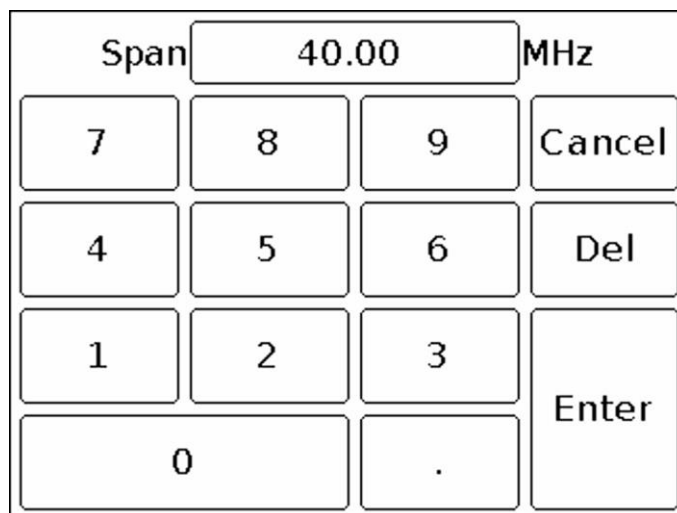

Figure 8 – Entering numeric values.
7.3.3. Each of the parameters is set by entering a numerical value in the opened submenu, as in Figure 8. Enter the numeric value of the frequencies and press **Enter**. To delete erroneous or previously entered values, press **Del**. To refuse to enter a value, press **Cancel**. *In our example, in Figure 8, setting the frequency range of the survey is 40 MHz wide.*